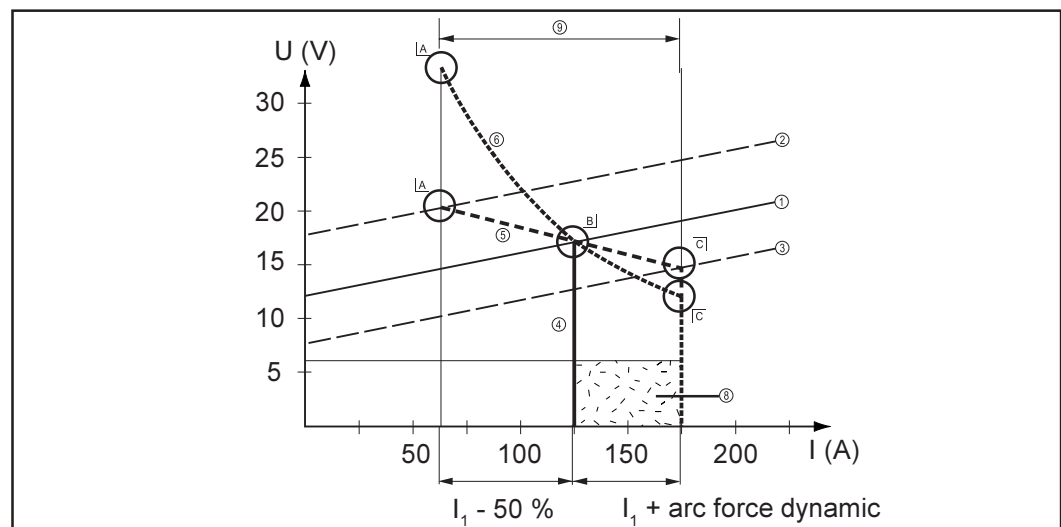

Fig.23 Settings example:  $I_1 = 125 \text{ A}$ , arc-force dynamic = 50
- If the “con” parameter is set, the welding current will be kept constant, irrespective of the welding voltage. This results in a vertical characteristic ④.
- Parameter “0.1 - 20” is used to set a falling characteristic ⑤. The setting range extends from 0.1 A / V (very steep) to 20 A / V (very flat).
- Setting a flat characteristic ⑥ is only advisable for cellulose electrodes.
**Important!** When setting a flat characteristic ⑥, set the arc-force dynamic to a higher value.
- If the “P” parameter has been set, the welding power is kept constant, irrespective of the welding voltage and welding current. This results in a hyperbolic characteristic ⑥ (Fig. 23).